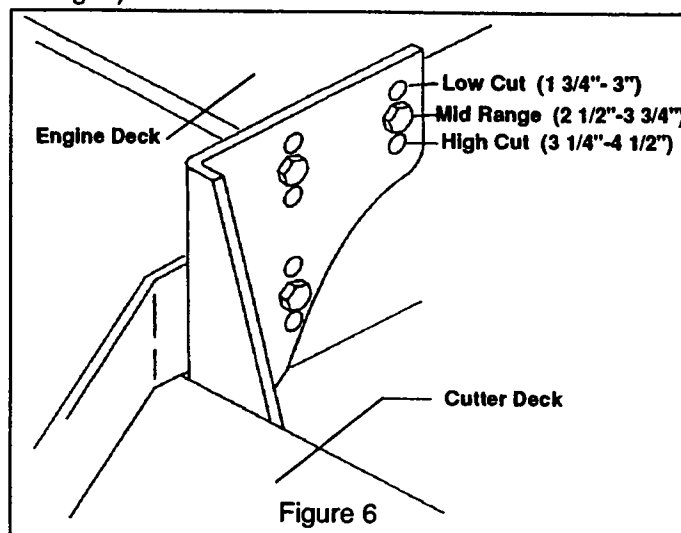

Figure 6
- a) Before beginning, determine which mounting holes are to be used to best suit the cutting height requirements of your customer. High/Medium/Low ranges (see fig. 6).
Additional range to the cutting height can be achieved by repositioning the cutter deck in relationship to the engine deck (This adjustment can also effect the pitch of the deck). There are 3 positions (see figure 6), suggested mounting is the middle holes. For cutting lower, mount the deck in the top holes. To cut higher, mount the deck in the bottom holes.